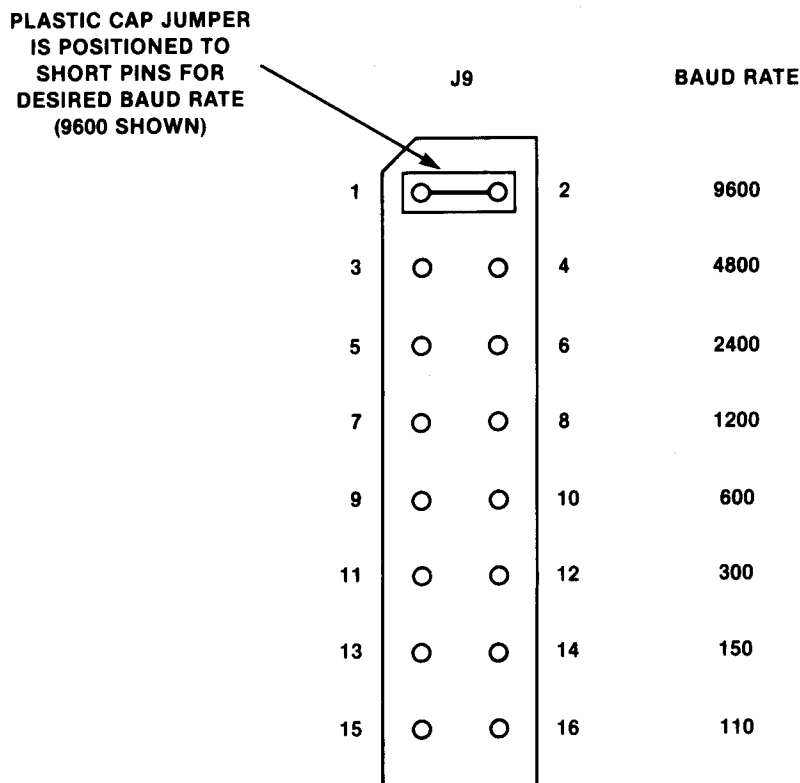

FIGURE 2-12. Host Baud Rate Select Jumper (J9)
**2.5.2.1 Selecting Host Baud Rate.** As with the terminal baud rate, the host serial port is wired to transmit and receive at the same baud rate. The desired baud rate is selected via a plastic cap jumper positioned on header J9, as shown in Figure 2-12. Also reference Figure 2-4 for the interconnection diagram and Table 2-1 for the selected baud rate.